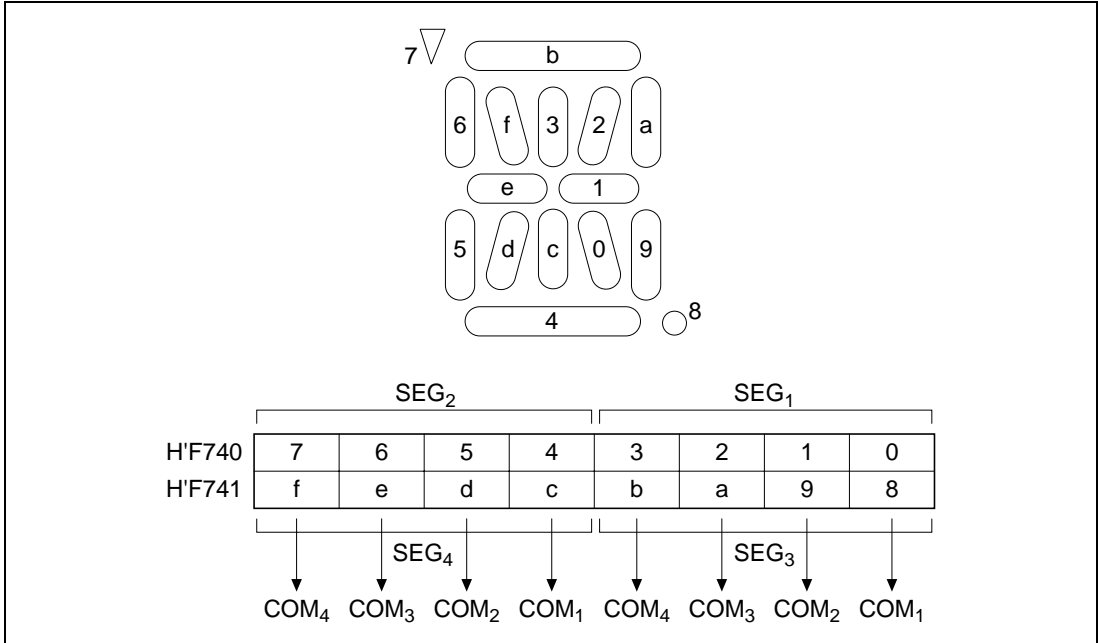

Figure 6 Relation between LCD Lit/Unlit States and Corresponding LCD RAM Settings
7. Figure 6 shows the relation between the display of the eighth column from the right in the 16-line 8-character segment LCD and the LCD RAM corresponding to SEG_1 through SEG_4 . As indicated in figure 6, when the LCD RAM bits corresponding to 0 through f are set to 1, the LCD regions are lit; when they are cleared to 0, the LCD regions are unlit.